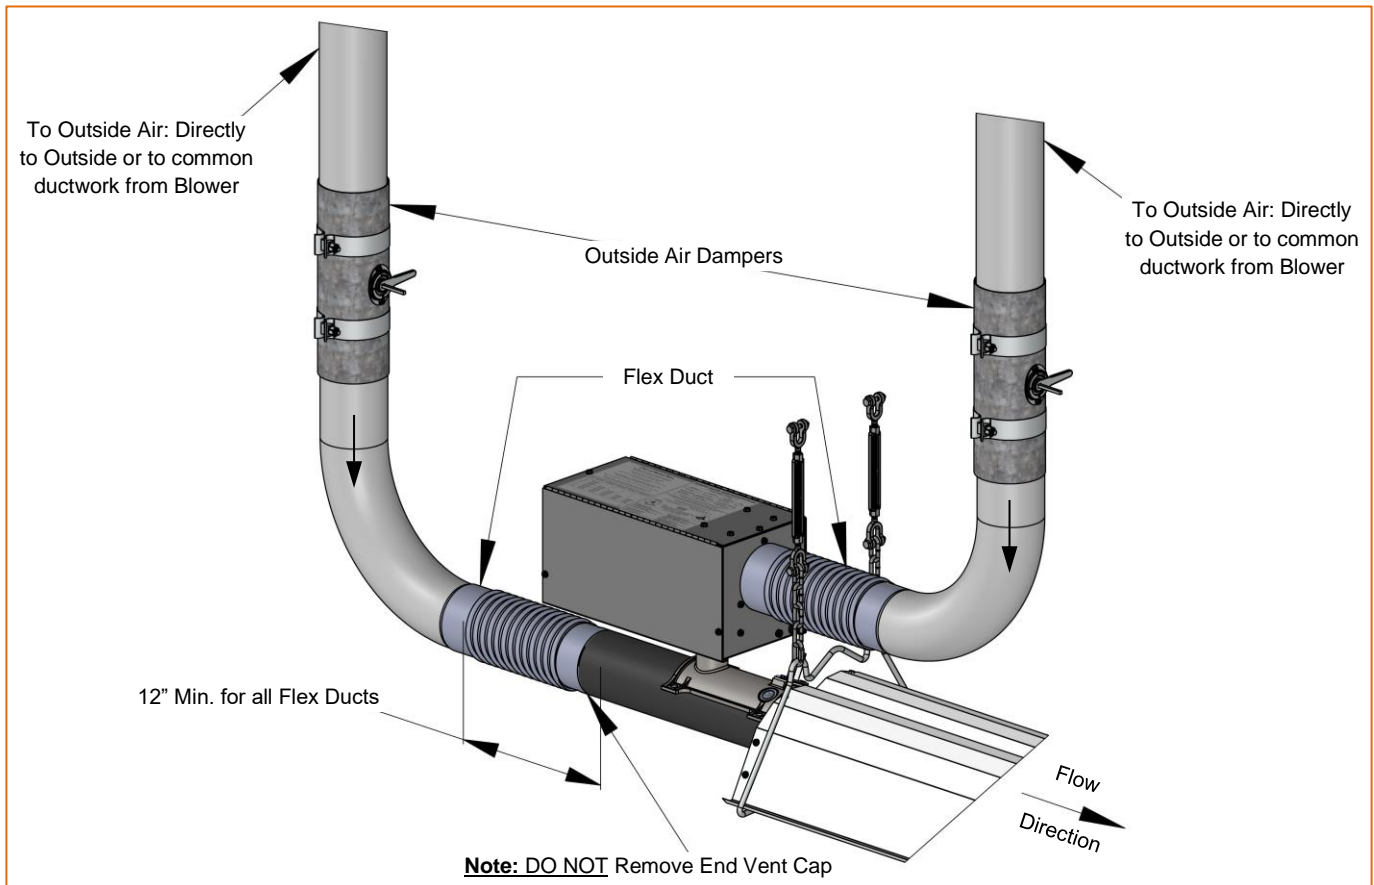

Figure 36: Outside Combustion Air Detail
3. Each Burner can be fitted with a 4” (100 mm) dia. fitting to accept 4” (100 mm) dia. Type C-Duct or 4” (100mm) PVC pipe. Provision for thermal expansion of the System must be made when considering Combustion Air Supply Ducting. Ensure that the System movement/expansion does not restrict the supply of fresh air to the Burners or the Radiant Branches. (Refer to Figure 36 for clearance requirements)
As required, connect the Supply Ductwork in the same manner as for the Burner. (Refer to Figure 36 for details), **DO NOT** remove the End Vent Cap from the Radiant Branch to make this connection.